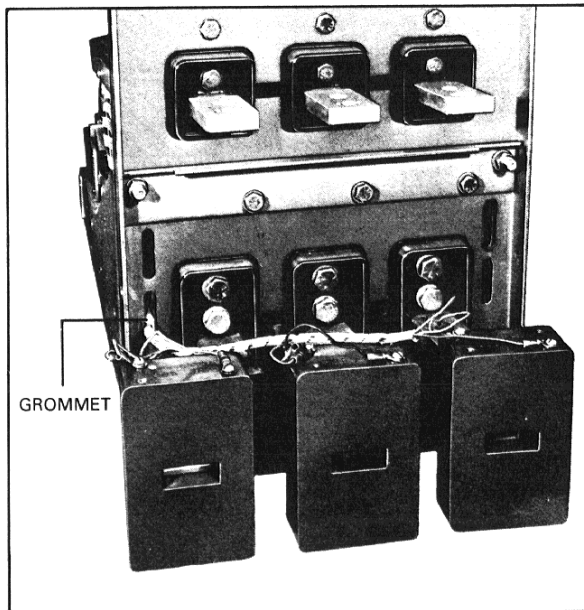
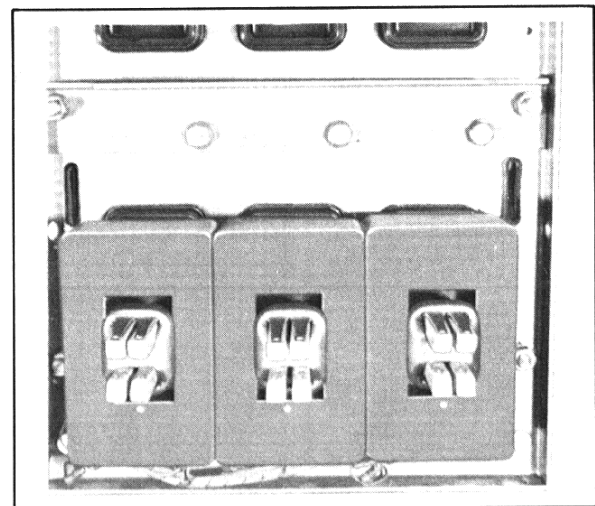

Fig. 10 Attaching Wiring Harness to Sensors DB-50
Fig. 11 Sensors in Place, Bottom Studs, Rear View
5. Install grommet in lower slot on right side of breaker rear frame. Thread the sensor end of the harness through this grommet, Fig. 10. **Remove approximately 18" of the harness cover to get the sensor end of harness through grommet.**
6. Remove the finger clusters from the lower studs, wire the harness leads to the sensors, (Fig. 10). Attaching the wires can be accomplished easily by having the terminals of the sensor facing upwards. Once the leads are secured the sensors can be flipped 180° and placed on the lower studs, (Fig. 11), now reinstall the finger clusters. Secure the wiring harness to the right hand mounting bracket using nylon clamp and .164 hardware.